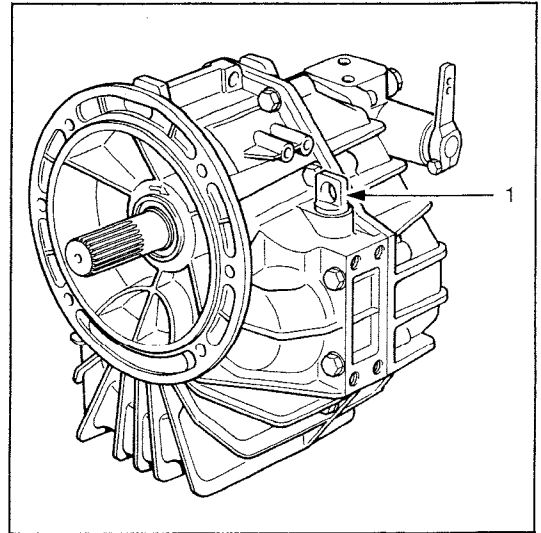

Figure 1
1. Loosen fluid dipstick (Figure 2, Item 1) turning the handle (Figure 1, Item 1) counterclockwise.